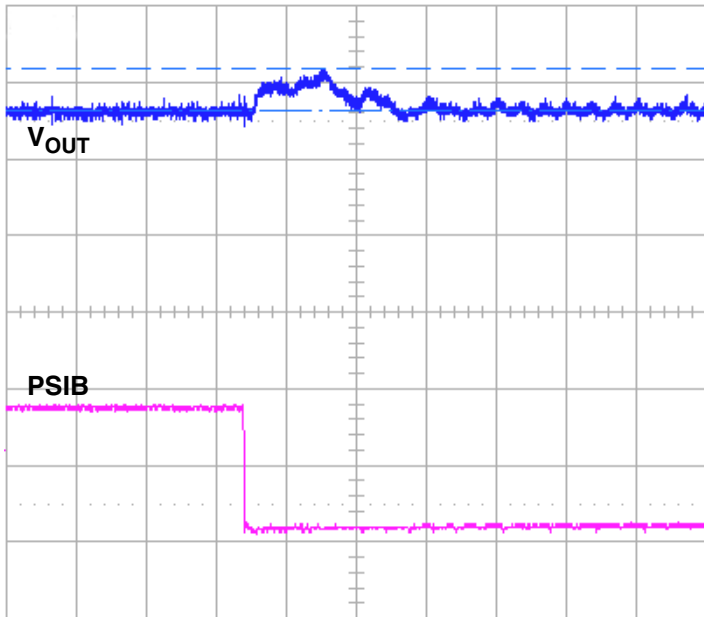
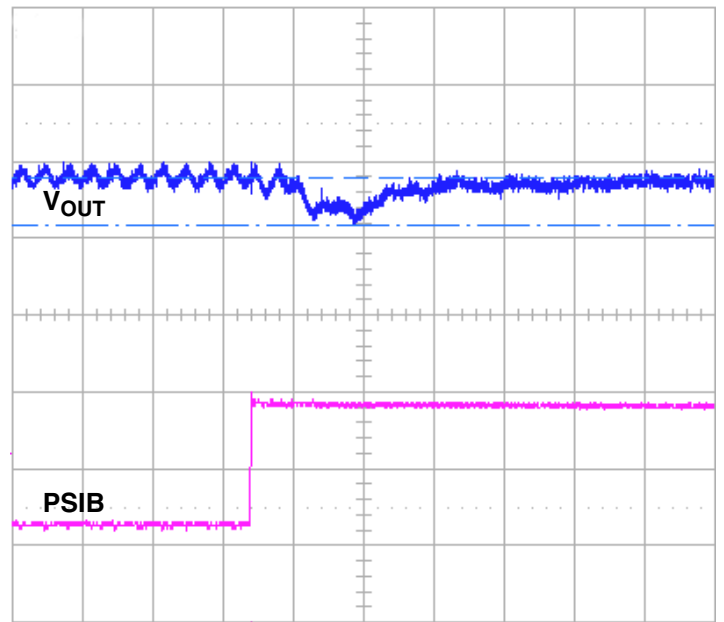

Figure 5: Entry to PSI Mode at 0A
Figure 8: Exit From PSI Mode at 20A
- Scope shots of typical dynamic phase-shedding entry and exit are presented in Figure 5 through Figure 8.